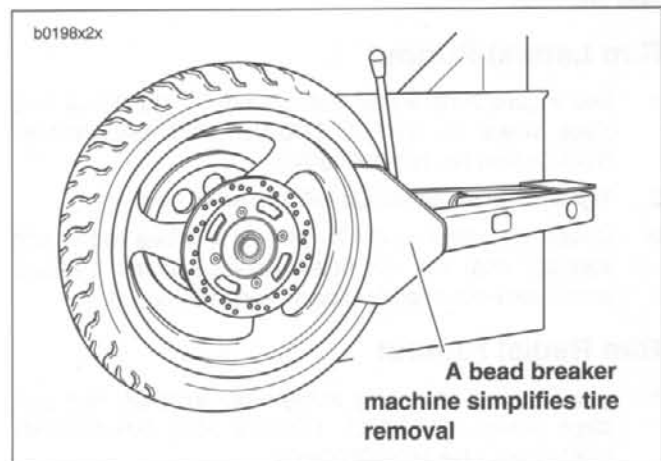

Figure 2-20. Loosening Beads from Rim Flange
3. See Figure 2-20. Loosen both tire beads from rim flange.